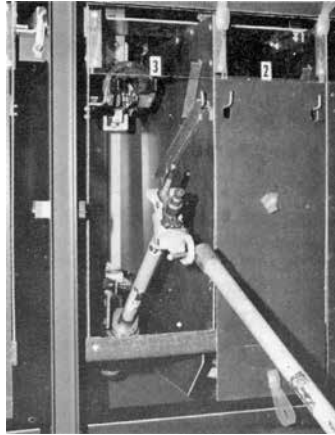

Figure 18.
5. Reinstall grappler onto fuse assembly and while grasping hotstick firmly, lift fuse assembly up and out of mounting. See Figure 18.
9. Reinstall grappler onto fuse assembly and place fuse assembly into fuse mounting in the 45° open (disconnect) position. See Figure 18.